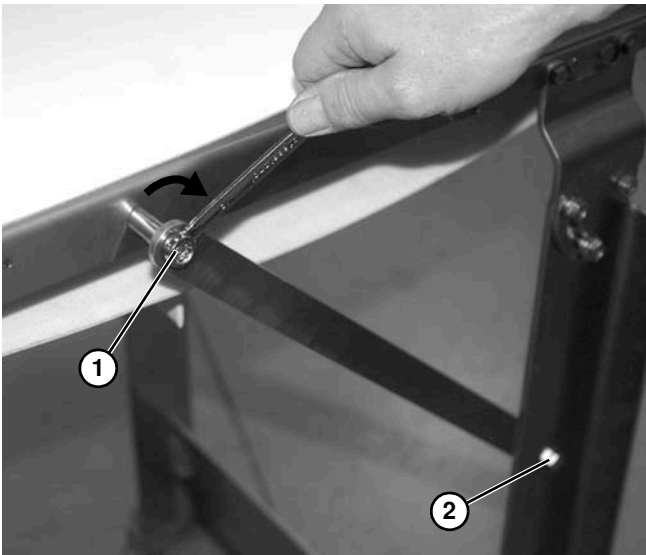

Figure 10
4. Install and tighten nut (**Figure 10, item 1**).
5. Tighten lower screw (**Figure 10, item 2**) and nut.